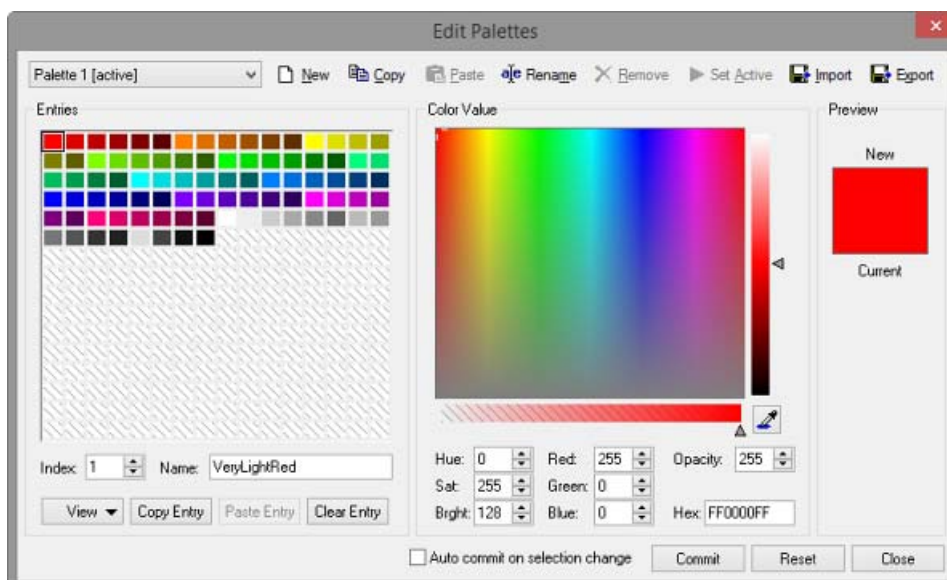

FIG. 424 Edit Palettes dialog
1. Select **Panel > Edit Palettes** (or click the toolbar button) to open the *Edit Palettes* dialog (FIG. 424).